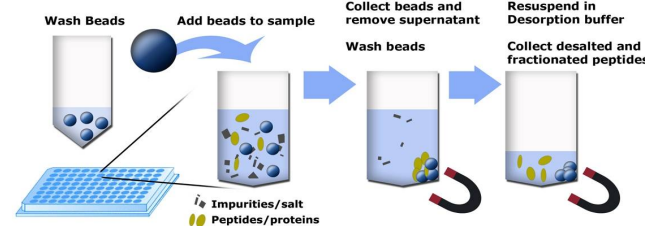

Fig. 1: Principle using MagSi-proteomics reversed phase beads.
MagSi-proteomics beads are magnetic silica beads coated with C4, C8 or C18 alkyl groups, providing a reversed phase (RP) surface chemistry. The beads are an ideal tool for protein and peptide sample concentration, desalting and fractionation, and reduce sample complexity (Fig. 1). The different versions of MagSi-proteomics beads are intended for: